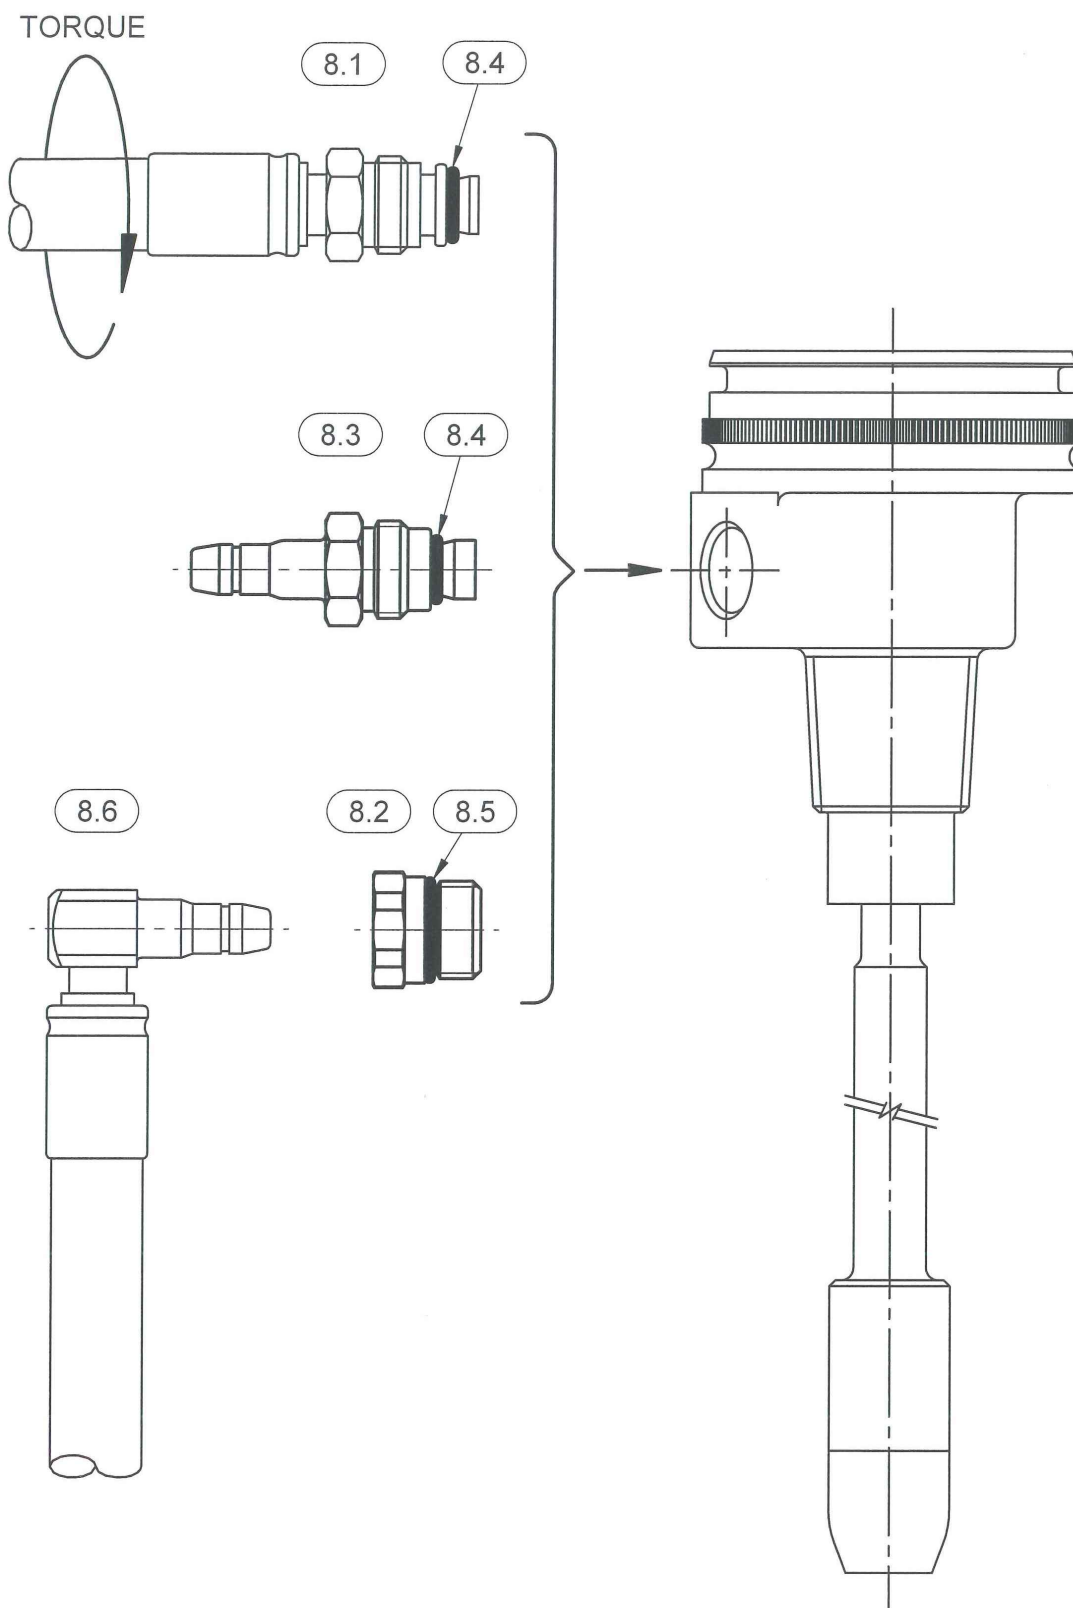

Figure 8
Figure 8 refers
4. Ensure that hose thread, Cylinder Valve thread and sealing surfaces are compatible and clean. Ensure that any seals that are specified for use with the hose are installed. Fit and tighten hose coupling in accordance with LIFERAFT manufacturer's procedures. Install the hose (Item 8.1, Fig 8) or rigid direct link adapter (Item 8.3, Fig 8) to a torque of 12.2 Nm (9ftLb). If an M16 Nut (Item 8.2, Fig 8) is used, torque to 20Nm (15ftLb).
5. When using M16 nut (Item 8.2, Fig 8), for push fit hose options (Item 8.6, Fig 8), replace the O-ring (Item 8.5, Fig 8) if it is damaged.
WARNING: IF USING ONE OF THE PUSH-FIT HOSE OPTIONS (Item 8.6, Fig 8), PUSH FULLY INTO THE M16 NUT, (Item 8.2 Figure 8) THEN PULL AND TWIST TO ENSURE THAT THE FITTING IS CORRECTLY ENGAGED. FAILURE TO DO THIS COULD RESULT IN INFLATION FAILURE OR SEVERE PERSONAL INJURY.
Note: See Spares Parts List, Section 12 for items 8.1-8.6 in figure 8.